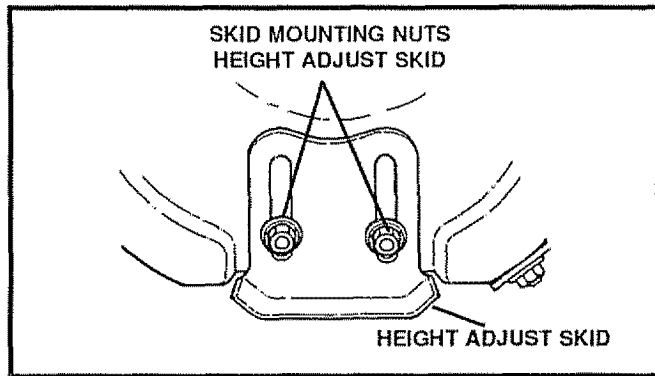

FIG. 19
- Loosen the skid mounting nuts (See Fig. 19) and push the skid down until it touches the ground. Retighten the mounting nuts.